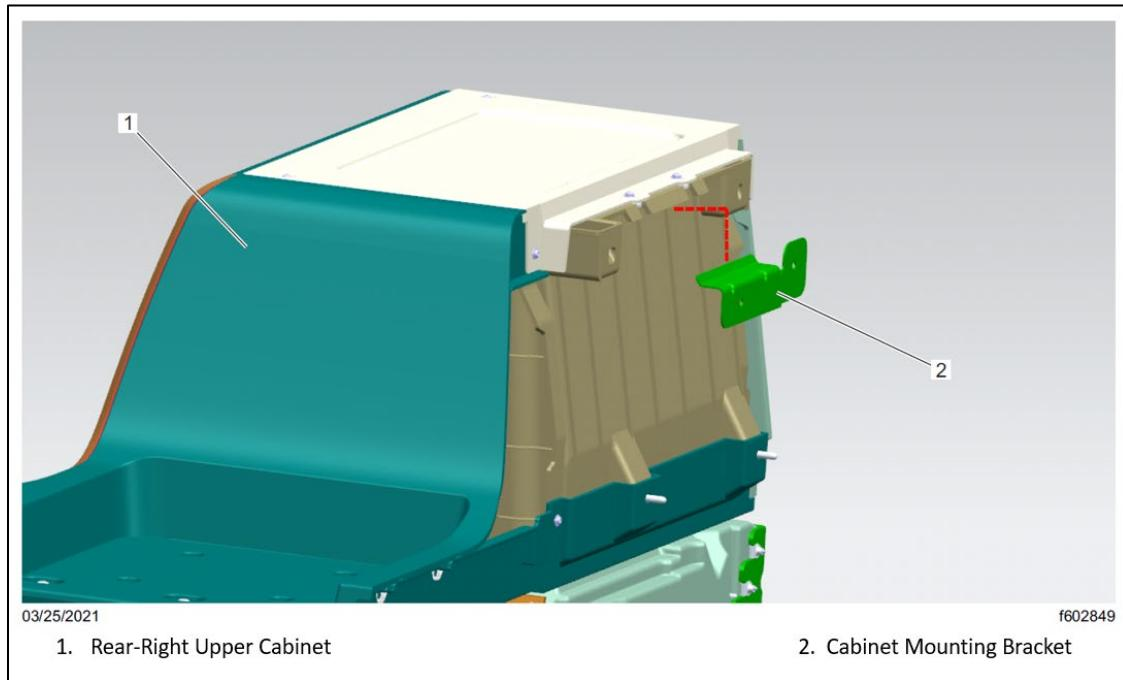

Fig.44, Unmounting the Rear-Right Upper Cabinet
7.2. Lift the rear-right upper cabinet until it releases from the cabinet mounting bracket, and then remove it from the vehicle. See Fig. 44.